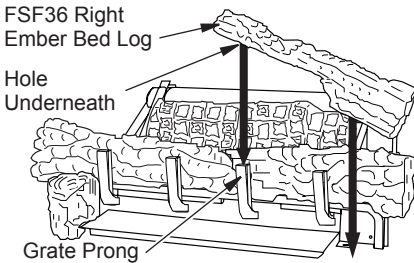

Figure 37 - Installing Right Ember Bed Log
- The FSF32 and FSF36 use two different right ember bed logs. The FSF32 right ember bed log is installed in the same manner as the log in step 3 above but on the right side. The FSF36 right ember bed log has a hole in the bottom that sets on the grate finger and the other end rest on the fireplace floor, place log as shown in Figure 37. The back side of this log needs to rest against the front of the base assembly, make sure the flame from the ember pan does not touch the ember bed log.